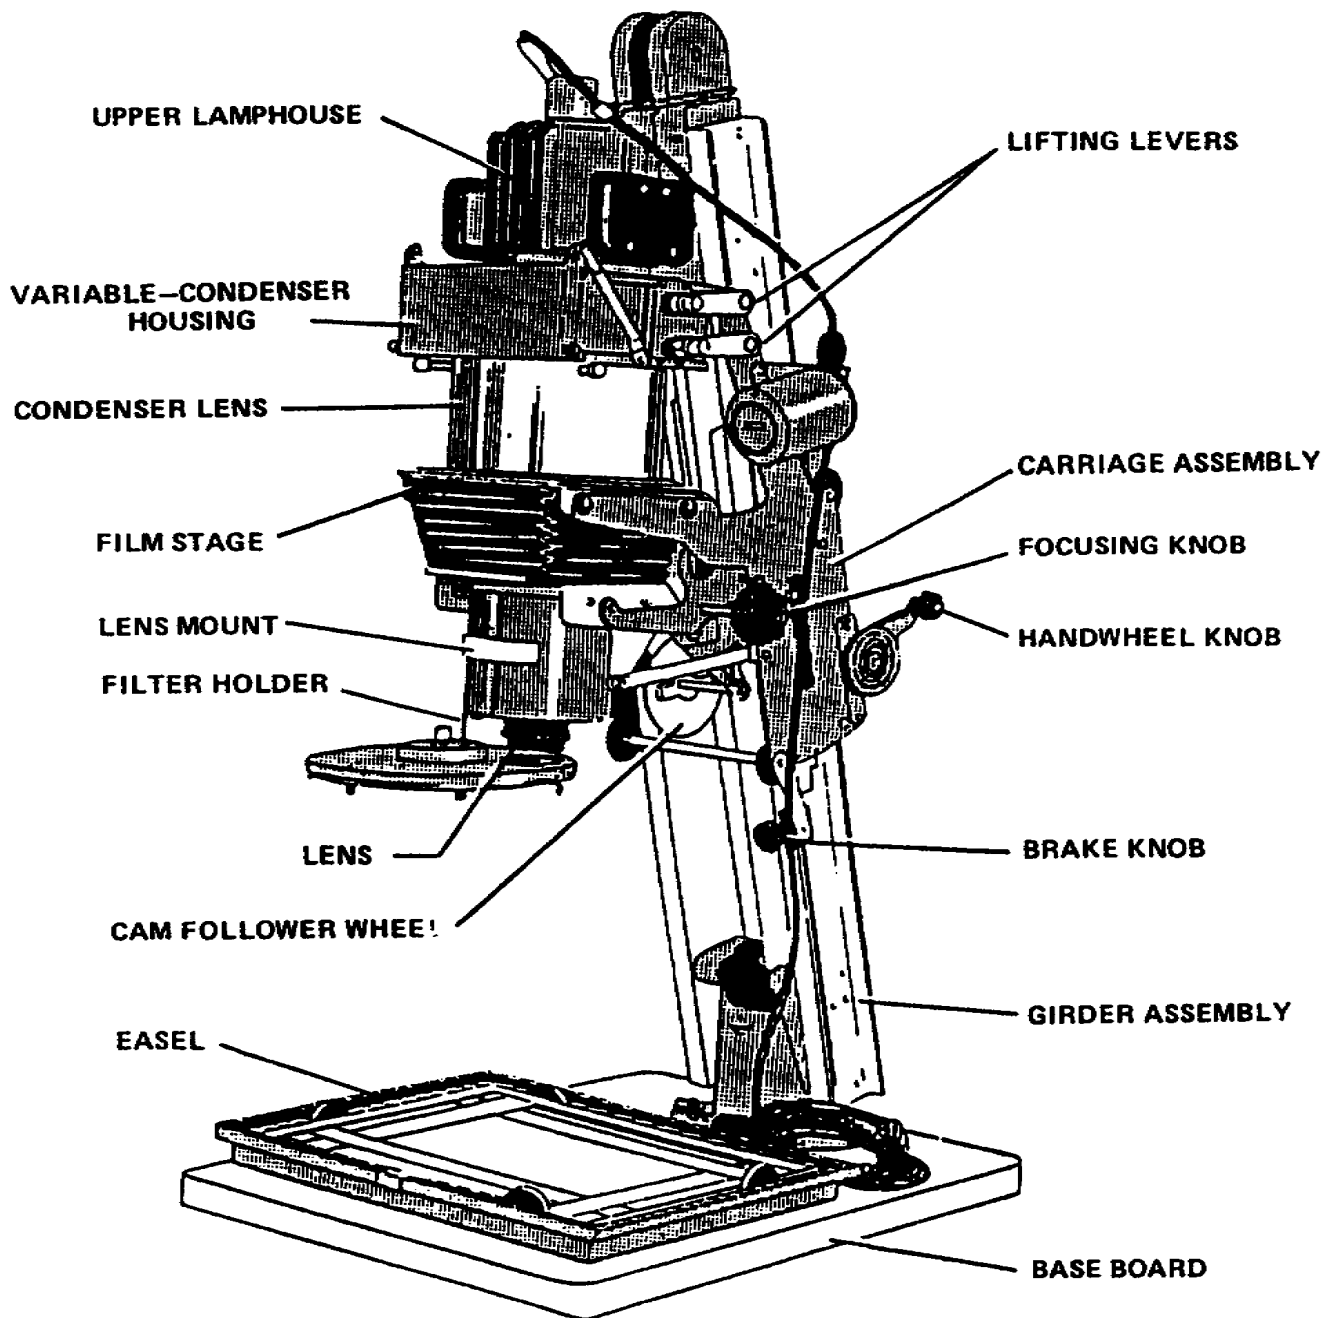

Figure 2-4. Typical projection printer
a. It is necessary to have some way of changing the lens-to-paper distance to provide for different degrees of enlargement or reduction. To focus the image on the paper, a means to alter the lens-to-negative distance must be provided. A typical projection printer is shown in Figure 2-4. Refer to it as you study this material.
(1) A tungsten bulb is used as a light source. The lamp is enclosed in a light-tight housing, which is ventilated to prevent excessive lamp heat from damaging the negative.
(2) A negative carrier is two metal or plastic plates with an opening in the center large enough to accommodate the negative. The negative is placed between these plates and is held in position by its edges.